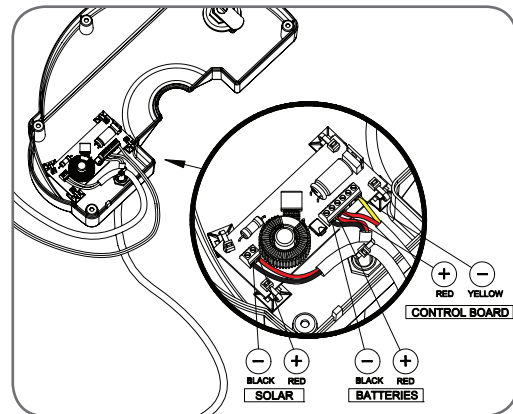

Fig 23
2. Unscrew and remove the four-wire harness from the Charger Board. Replace with the two-wire (red/yellow) harness, connecting wires as shown (Fig. 23).
4. Connect the **red wire** to the Charger Board's "**SOLAR+**" connector, and the **black wire** to the "**-SOLAR**" connector (Fig. 23).